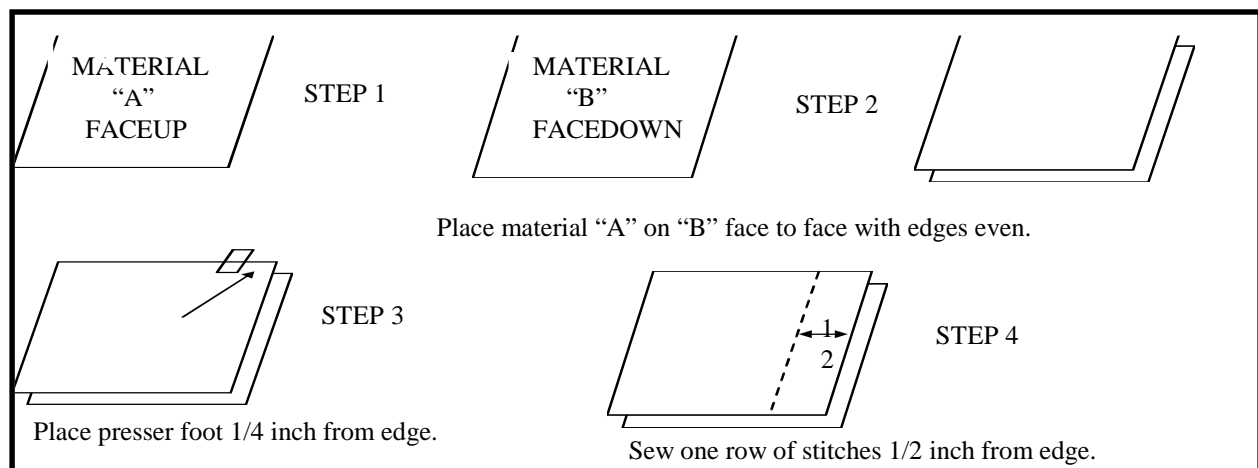

Figure 3-8. Simple seam
a. Plain or Simple. The plain or simple seam (Figure 3-8) is the easiest seam to sew. It uses one row of stitches to join two pieces of cloth. This seam is used when a finished seam edge is not required, such as open side seams that must be mended. It is also used to mend straight and L-shaped tears when little or no material is missing. To make a simple seam--
- (1) Place the material together face to face (all four edges square).
- (2) Mark the edge of the material $\frac{1}{2}$ inch from the raw edge on the 8-inch length.
- (3) Place the material on the machine so that the mark is in a vertical position.
- (4) Start at the top of the marking on the edge of the material and stitch down to the bottom edge of the material. Allow a 1 inch tack stitch at both ends of the material not less than $\frac{7}{8}$ inch or more than $1\frac{1}{8}$ inches.
- (5) Press the seams open with an iron.